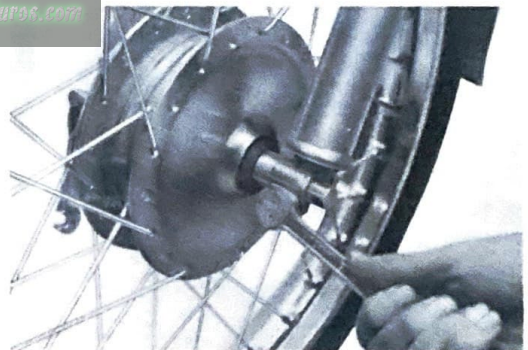

Fig. 5-1-4
- 3) Loosen the front wheel shaft lock bolt. (Fig. 5-1-4)